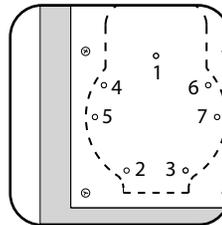

Figure 5
2.4 Locate (see Pürleve handle template included OR use the holes in the Pürleve Door Plate installed in Step 1) and mark the center points for the seven Pürleve mounting holes - Holes #4, 5, 6, 7 only required if strength deemed necessary. (Fig. 5)